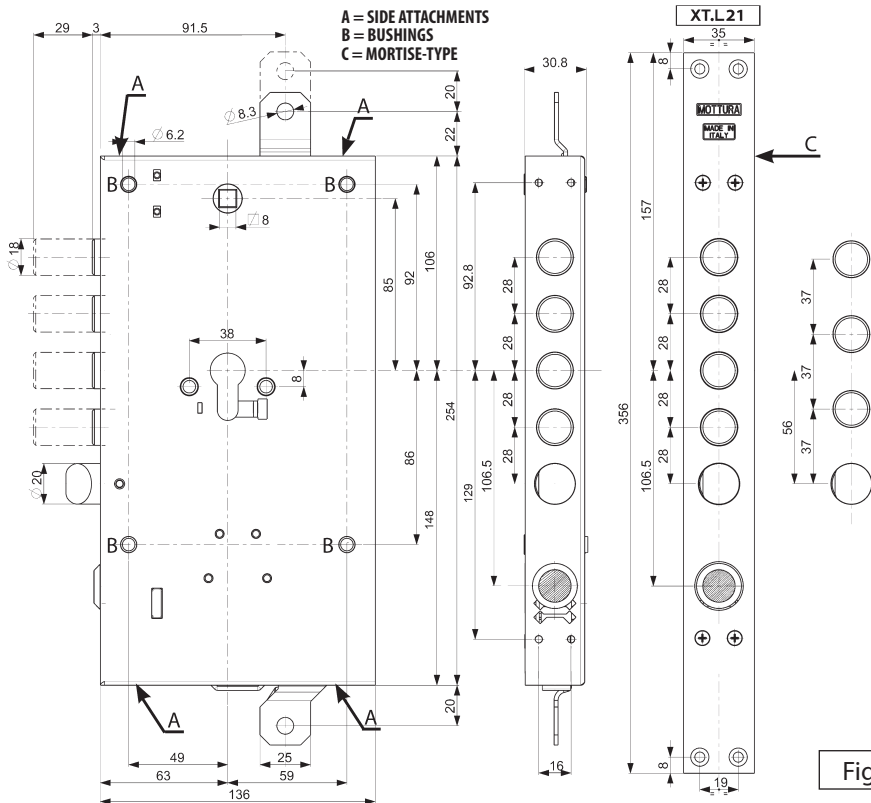

Fig. 1
Fix the lock to the door structure by using all of the fasteners: side attachments (A), bushings (B) or mortise-type (C) (Fig. 1). In order to work correctly, the lock should be fixed in a vertical position. The lock may not work properly if installed or used in a different position. For correct operation of the lock, the spring latch must be able to protrude freely without frictioning when the door is open or closed.